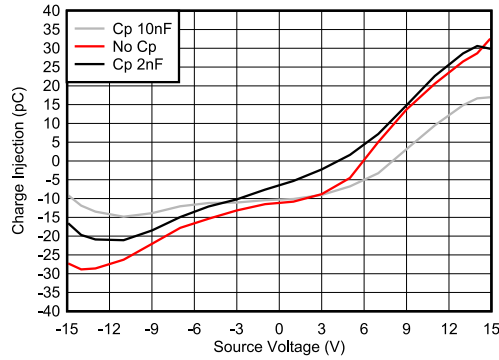

图 8-2. Charge Injection Compensation
The TMUX620x contain specialized architecture to reduce charge injection on the Drain (D). To further reduce charge injection in a sensitive application, a compensation capacitor (C_p) can be added on the Source (S_x). This will ensure that excess charge from the switch transition will be pushed into the compensation capacitor on the Source (S_x) instead of the Drain (D). As a general rule of thumb, C_p should be 20x larger than the equivalent load capacitance on the Drain (D). 图 8-2 shows charge injection variation with different compensation capacitors on the Source side. This plot was captured on the TMUX6219 as part of the TMUX62xx family with a 100pF load capacitance.